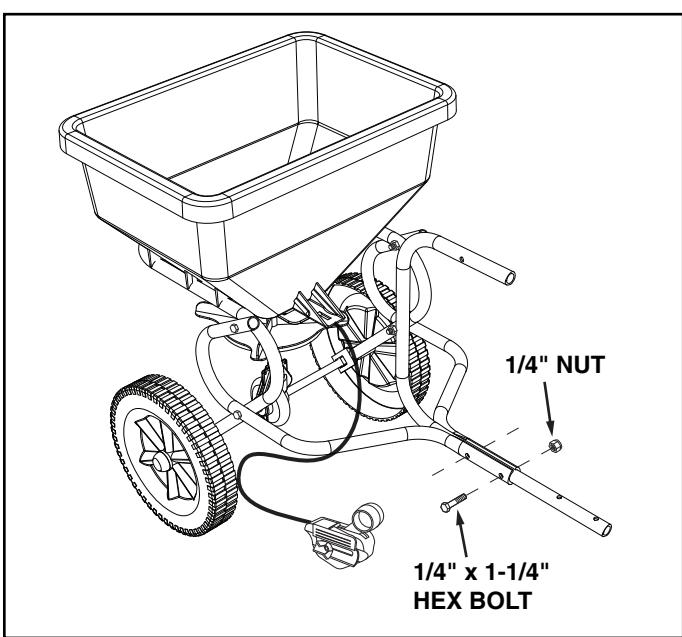

FIGURE 2
3. Assemble the Hitch Control Tube between the Hitch Tubes using two 1/4" x 1-1/4" hex bolts and 1/4" nuts. **Tighten all** bolts and nuts. See figure 2.